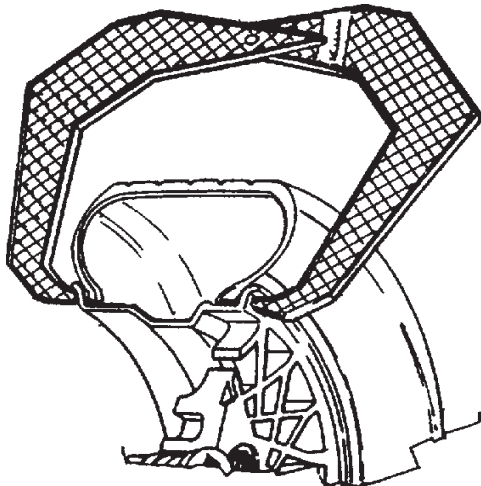

Figure 23
4.5.2. Measure rim width using rim width calipers. Measure wheel where corrective clip-on weight would be applied, Figure 23. Enter the measured width by rotating the shaft until the desired value appears in the center display.